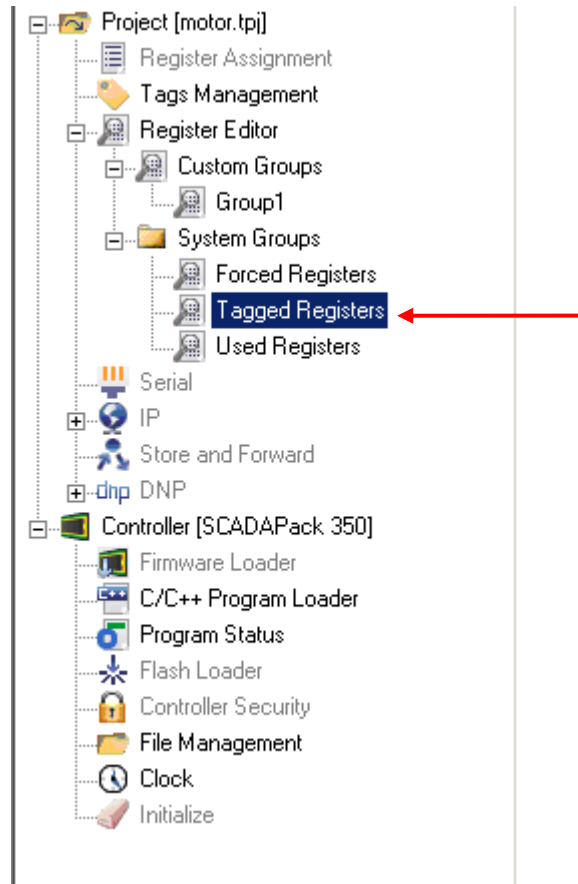

Figure 21: Tagged Registers in Tree View
- Select **Tagged Registers** in the Tree View (See Figure 21)